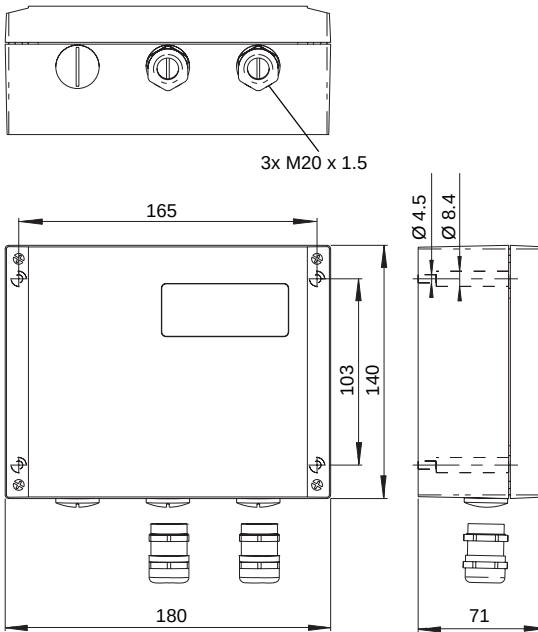
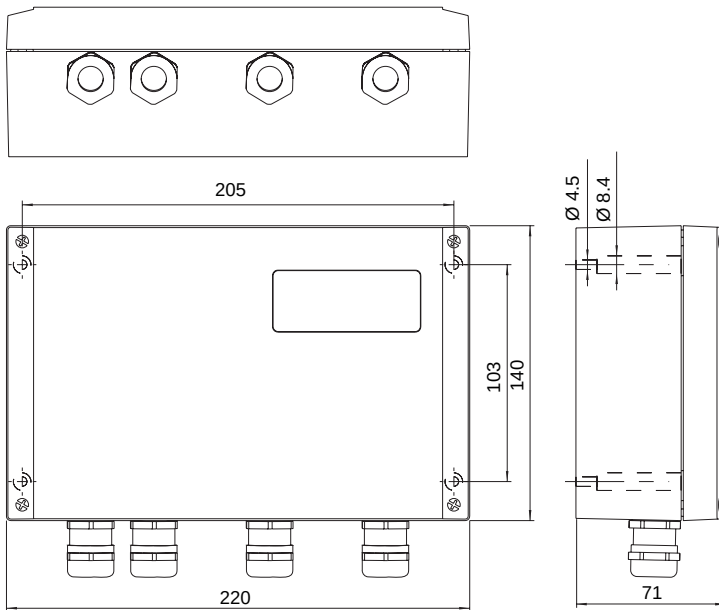

Fig. 5.1: Dimensions of FLUXUS ADM 5107 (in mm)
Fig. 5.2: Dimensions of FLUXUS ADM 5207 (in mm)
- Drill four holes in the wall at the selected location (see Fig. 5.1 or Fig. 5.2).